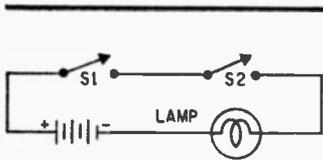

Fig. 1. The basic AND circuit is easily demonstrated with switches in series—S1 and S2 must close before indicator lamp will light.
**AC, DC or Both.** The schematic of a typical OpAmp is shown in Fig. 1. We could go into differential inputs, constant current sinks, split outputs and all the other technical terms that are impressive. But, in all probability most of this terminology would be meaningless to the experimenter and hobbyist. What is important, as noted in Fig. 1, is the absence of coupling capacitors. The OpAmp is DC coupled, and its output is self-center tapped. The OpAmp can handle either AC, DC or both simultaneously, and the output is normally at DC ground potential. As it is usually powered by a bi-voltage power supply as shown in Fig. 2, the OpAmp's output can be set to the center tap or ground potential and usually is in experimenter's applications.
Fig. 1. Schematic and equivalent circuit of IC operational amplifier. Since device is DC coupled, it can be used for both AC and DC amplification. Output can be either in phase or out of phase with input signal.
An *and* function indicates that *all input signals* must be present in order for an output signal to be produced. The simplest example of this is the pair of switches shown in Fig. 1. If we define "switch closed" as meaning "signal present," then the lamp cannot light until both signals are present (both switches, S1 and S2, closed). If either sig-
For example, if we re-define the meaning of the switch position so that a *closed* switch means the signal is *absent*, and also re-define the meaning of the lamp so that its being out indicates an output signal, what happens to the circuit of Fig. 1?
With the signals absent, both switches must be closed; this allows the lamp to be on, indicating that no output signal is present. When either input signal is made present (by opening its switch), the lamp goes out, indicating output. But this is the definition of the *or* function, while Fig. 1 was presented originally as an example of an *and* type circuit.